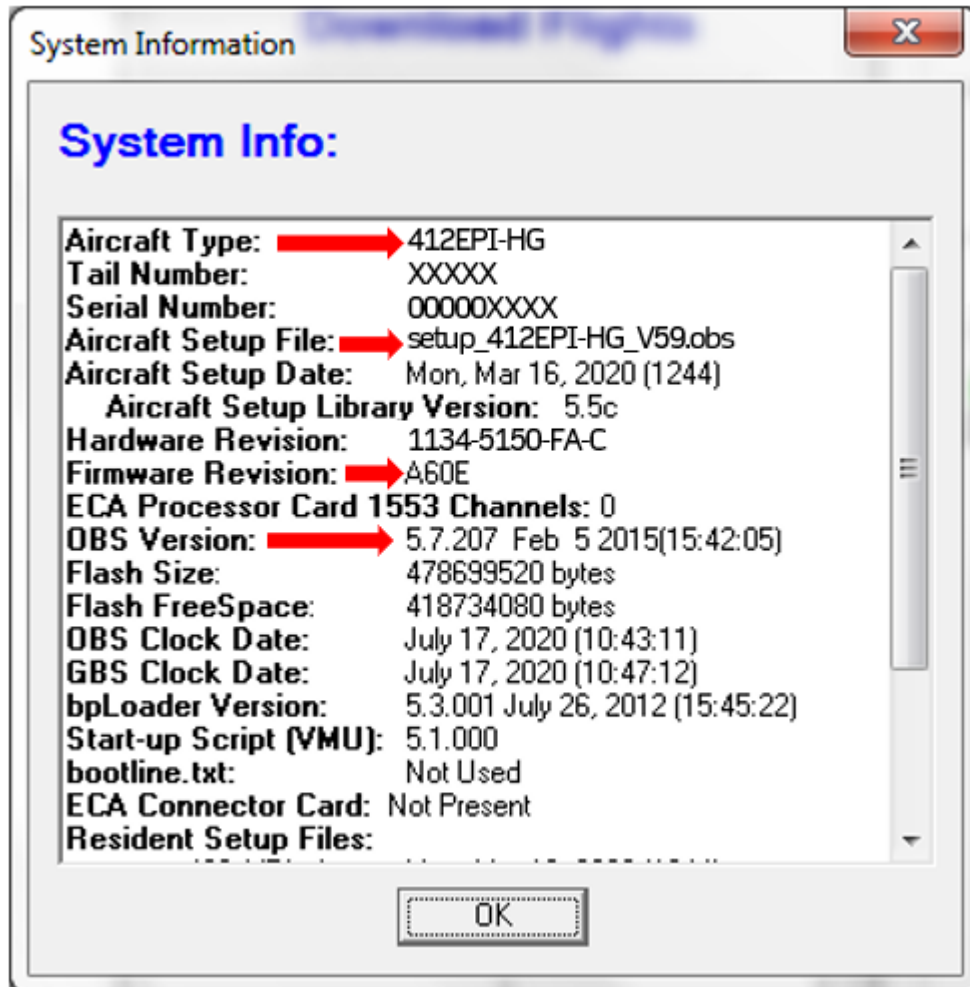

FIGURE 1 – SYSTEM INFO PAGE REPRESENTATION
5. The 'System Info' page should represent the following example after successfully loading the 5.7 SP2B V59 or V60 software (see Figure 1).